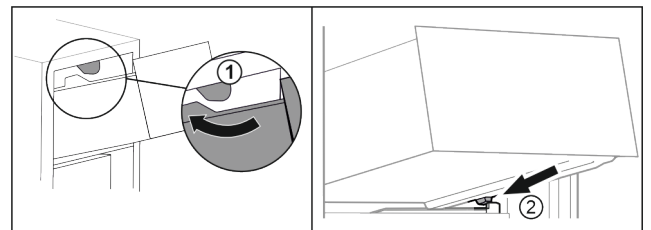

Fig. 64
- ▶ Guide drawer around the upper stoppers. Fig. 64 (1)
- ▶ Place drawer at an angle behind the lower stoppers onto moulded rib. Fig. 64 (2)